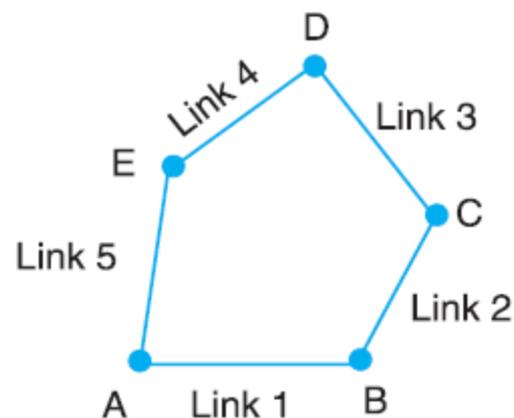

Fig. 5.8. Arrangement of five links.
3. Consider an arrangement of five links, as shown in Fig. 5.8. In this case,
Since the arrangement of five links, as shown in Fig. 5.8 does not satisfy the equations and left hand side is less than right hand side, therefore it is not a kinematic chain. Such a type of chain is called **unconstrained chain** *i.e.* the relative motion is not completely constrained. This type of chain is of little practical importance.